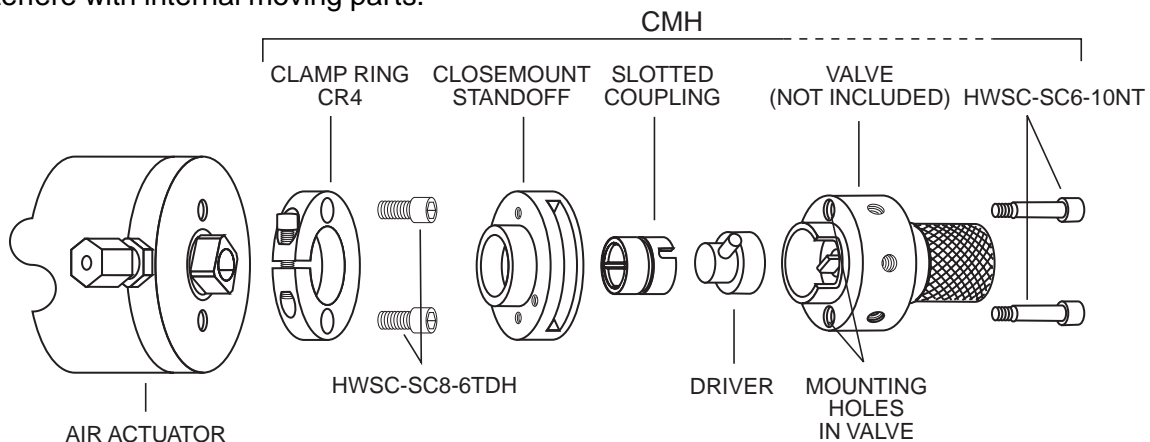

Figure 1: Valco valve (two mounting holes) on an actuator with closemount hardware
The valve can be removed from the CR4/closemount standoff without affecting alignment by removing the two HWSC-SC6-10NT screws (**Figures 1 and 2**). The alignment is not changed as long as the HWSC-SC6-10B screw in the CR4 clamp ring is not loosened.
1. If an actuator has been specified for closemount use, it will come from the factory with the CR4/ clamp ring already mounted. The clamp ring should not ever be removed from the actuator: however, if it has been removed, reattach it with the screws specified in **Figures 1, 2, or 3**, as appropriate.
3. Turn the valve to the counterclockwise position. For Valco valves, this is shown by the position of the rotor tab in **Figures 1 and 2**. The valve and actuator are now both in the LOAD position.